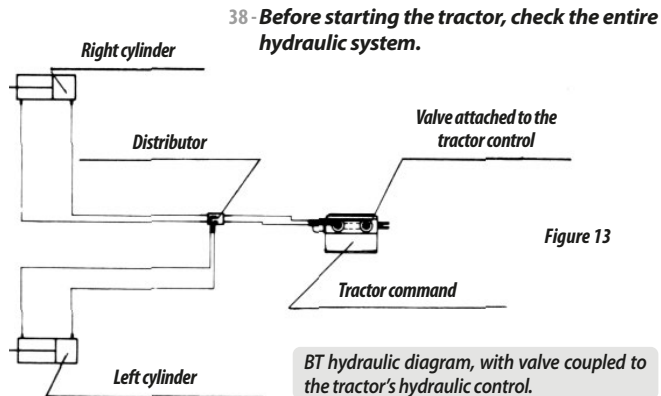

Figure 13
- 37 - Fix the distributor, connect the valve hoses to the oil distributor, connect the right and left piston hoses to the oil distributor as shown in figure 13.